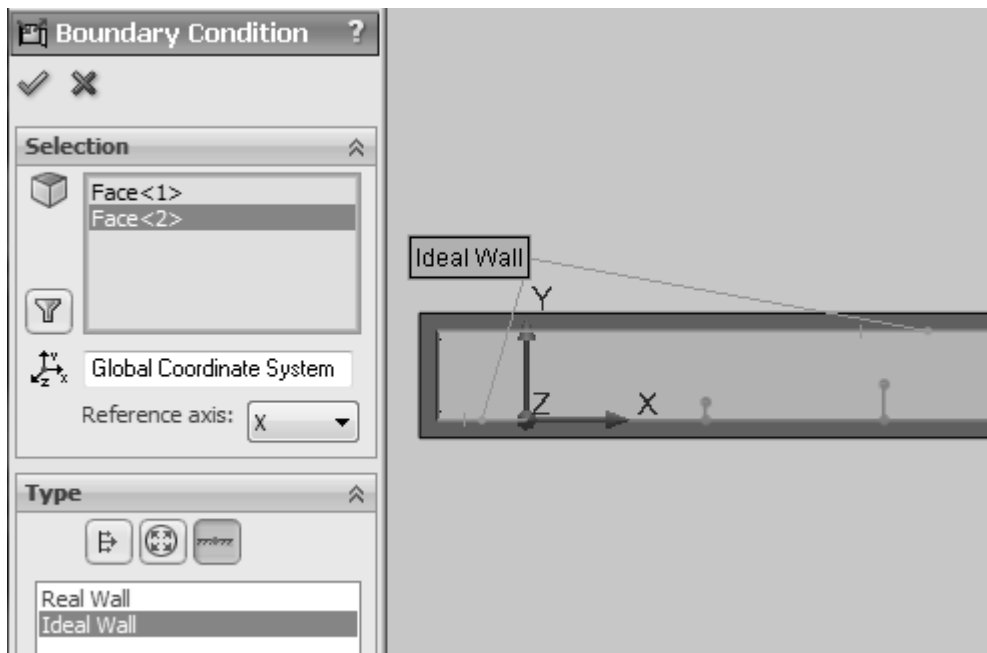

Figure 2.19 Ideal wall boundary condition for two wall sections
19. Enter the following boundary conditions: **Ideal Wall** for the upper wall and lower wall at the inflow region, see figures 2.19. These will be adiabatic and frictionless walls.